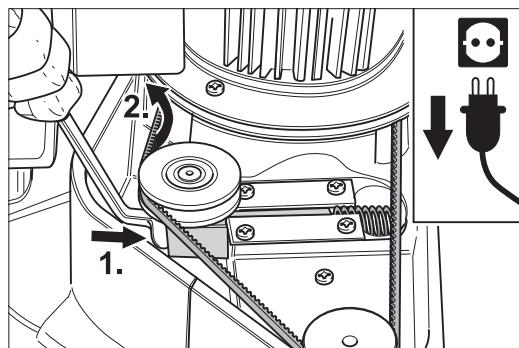

Fig. 47 Release the tension of the V-belt by carefully applying the cranked closed-mount wrench and moving the belt tensioner as shown.
- 11 Release the tension of the V-belt by carefully moving the V-belt tensioner using cranked closed-mouth wrench. The V-belt can now be disengaged from the pulleys and the belt tensioner (Fig. 47).